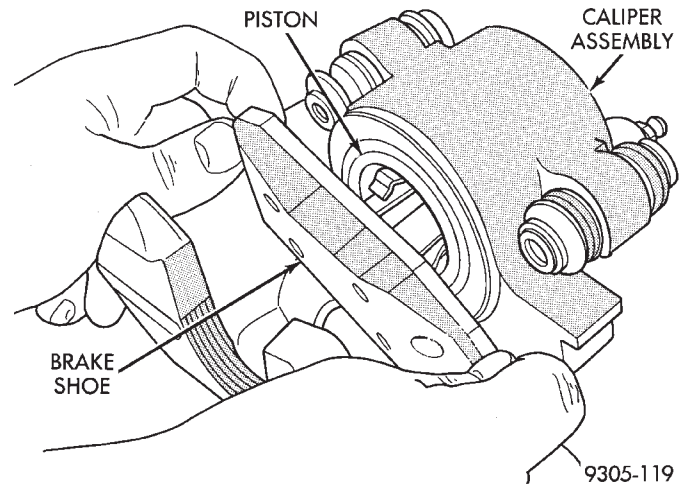

Fig. 91 Installing Inboard Brake Shoe Assembly that caliper guide pin bushings and sleeves are clear of the steering knuckle bosses
(5) Install the new inboard brake shoe assembly into the caliper piston by firmly pressing into piston bore (Fig. 91). Be sure inboard brake shoe assembly is positioned squarely against face of caliper piston.